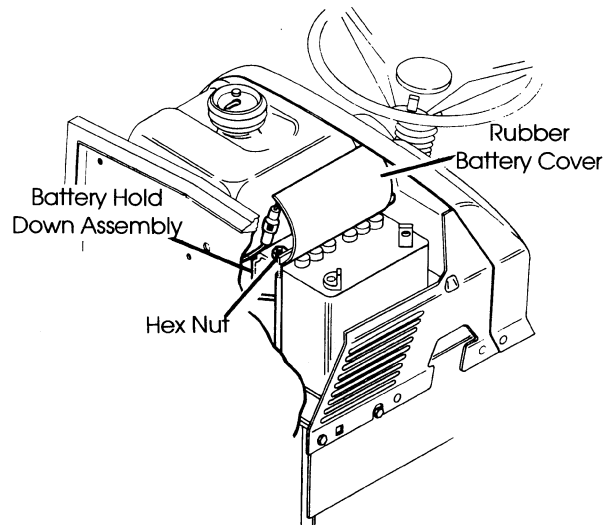

FIG. 1
- A. Open tractor hood and **loosen** (do not remove) nuts on battery hold down assembly, Fig. 1. Remove battery from tractor.
- B. Slide battery into position under battery hold down assembly and rubber cover. Tighten the two hex nuts, Fig. 1.